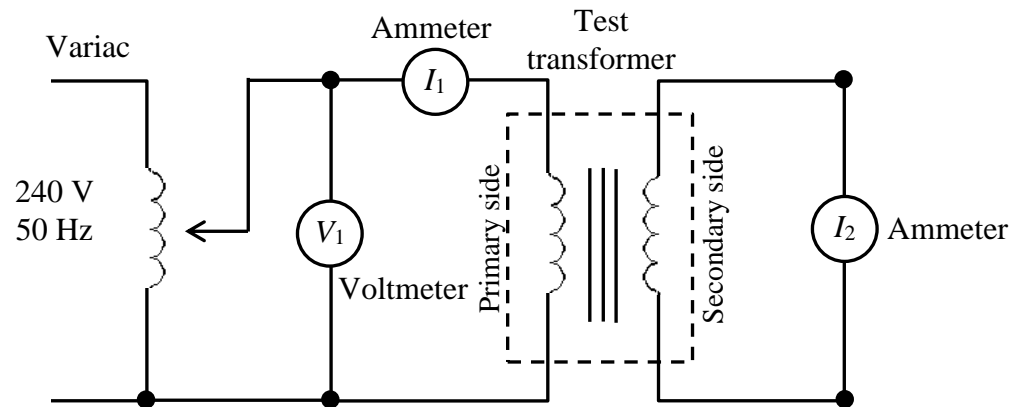

Fig. 4: Short-Circuit Test
2. For short-circuit test, connect the circuit as shown in Fig. 4.